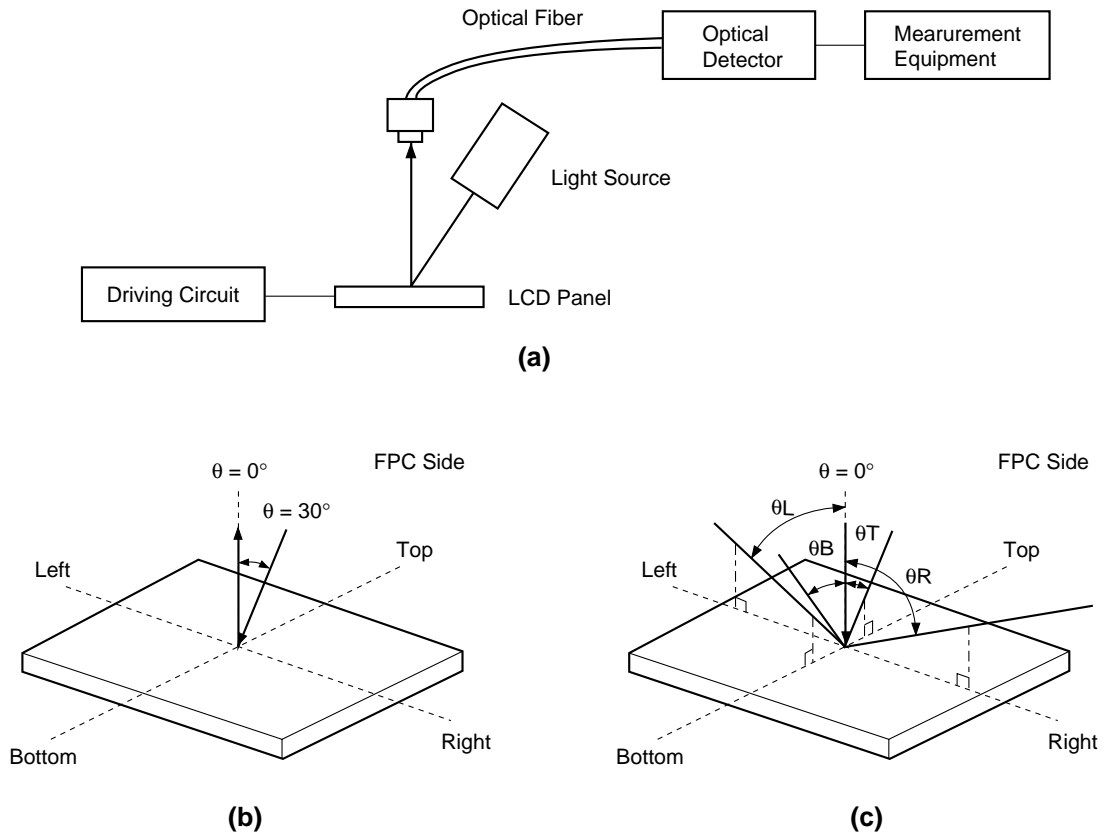

Fig. 1. Measurement System-1
1. Reflectivity (R)
In the system-1 (see Fig. 1 (a), (b)), calculate the reflectance factor by using the formula (1).
2. Contrast Ratio (CR)
In the system-1 (see Fig. 1(a), (b)), measure the reflectance factor of "White" and "Black" respectively and calculate by using the formula (2).
In the measurement system-1 (see Fig. 1 (c)), viewing area is defined by the area which makes the $CR \geq 2$.
In the system-1 (see Fig.1 (a), (b)), measure the signal amplitude across the liquid crystal where $R(\text{relative}) = 90\%$ and $R(\text{relative}) = 50\%$ and $R(\text{relative}) = 10\%$ (see Fig. 4).